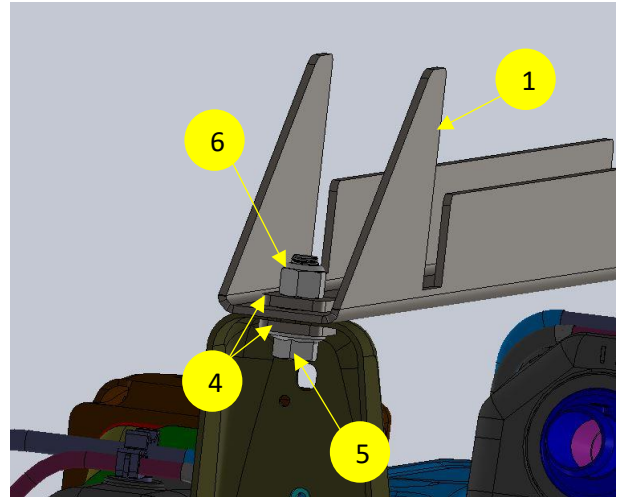

Figure 1
1. Place front support tube (**ITEM 1**) on top of the left and right front bed mount risers. Line up inner holes in the support tube to the holes in the bed mount risers. Fasten support tube to risers using (2) 5/8" x 1-3/4" (**ITEM 5**), (4) level lok reinforcing plates (2 per side) (**ITEM 4**) and (2) 5/8" nyloc nuts (**ITEM 6**). Tighten all bolts. **Figure 1 & 2**